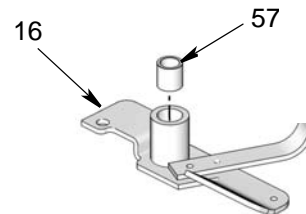

FIG. 12
- g. Install bearing (57) in paddle (16) as shown in FIG. 12.